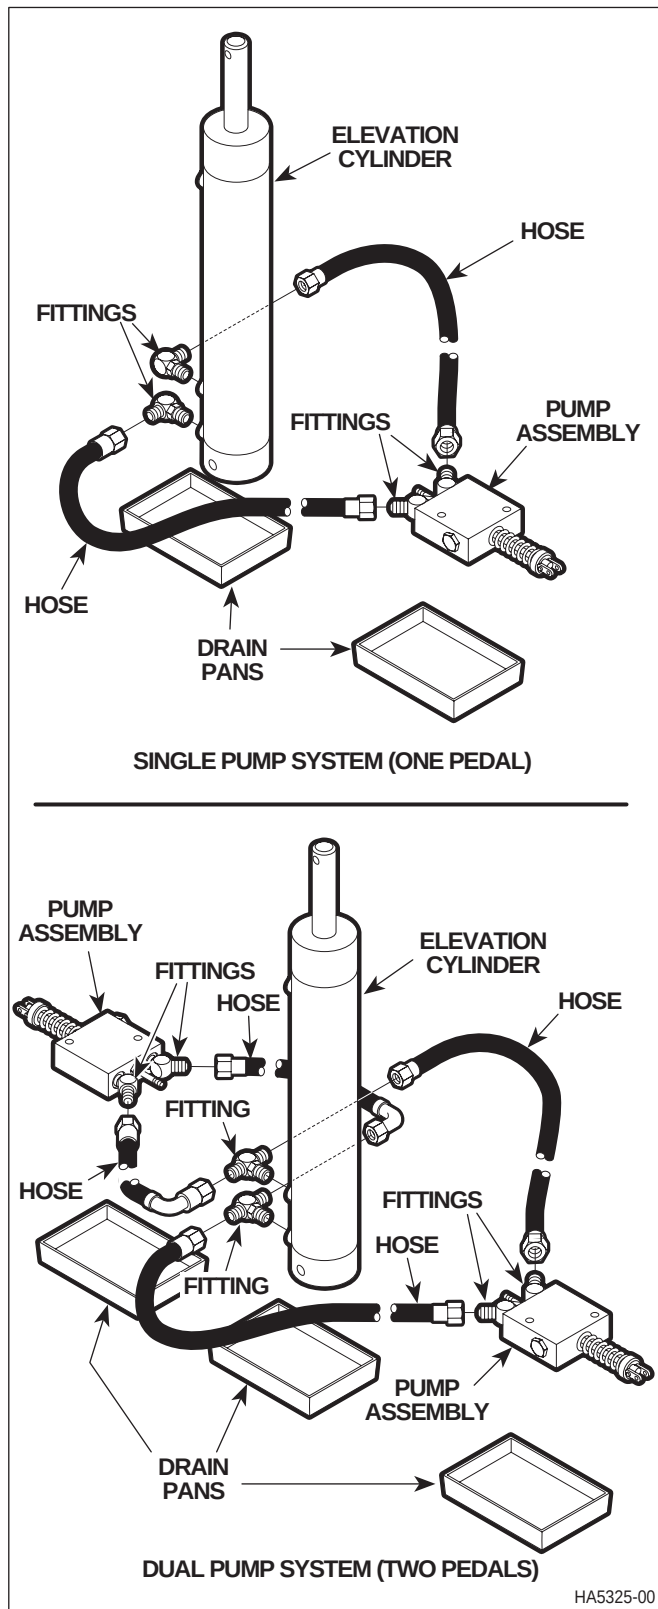

Figure 4-6. Hose Removal / Installation
- (3) Place drain pan(s) under the hose connections to catch oil. See Figure 4-6.
- (4) Disconnect one end of hose from fitting in pump assembly and the other end of the hose from fitting in elevation cylinder and remove hose.